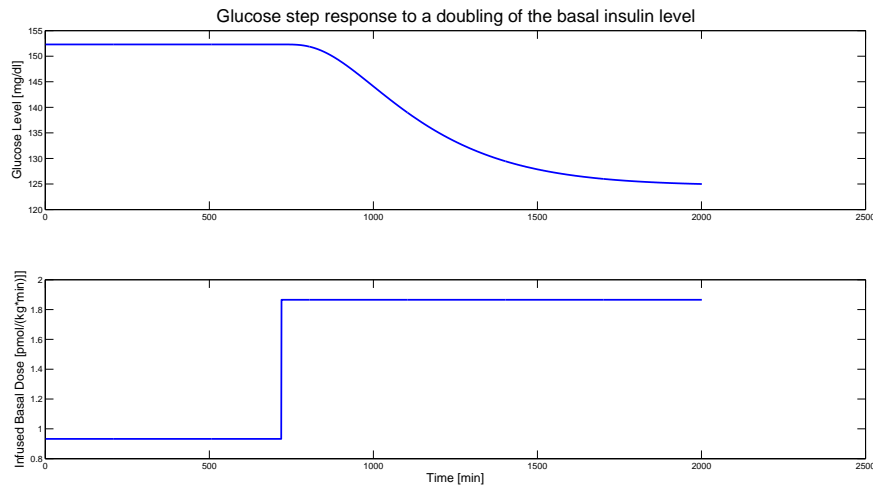

Figure 3 Step response of the glucose to a doubling of the insulin basal level.
where parameters K , K_i and K_d can be tuned. The proportional part u_P gives a control signal that is directly proportional to $e(t)$. The integral term u_I gives an accumulated response to $e(t)$ that is persistent. Finally, the derivative term u_D gives a contribution that is acting on the direction of $e(t)$, thereby trying to foresee the development and act in advance. In Fig. 3, the step response of the glucose to a change of the insulin basal level can be seen. This may be useful to understand the behavior of the controller and the system for the questions below.
- (e) What do you think is the main challenge to controlling this system (using feedback control)? Hint: Consider the open-loop system behavior shown in Fig. 3.